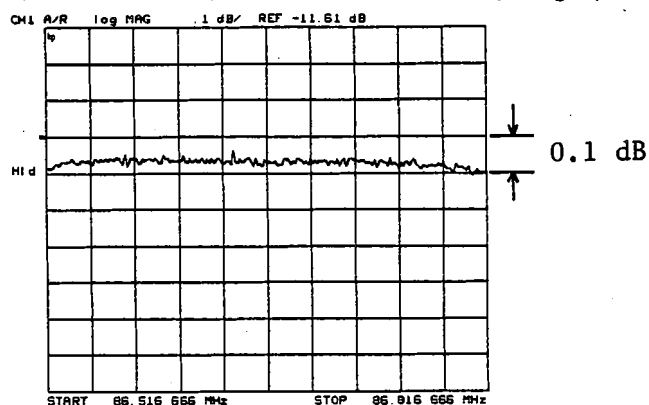

Figure 3-92. Receiver Third IF Converter 6.3/6.9 MHz BPF Adjustment Example 2
8. Adjust **A20R38 (FLATNESS ADJ)** until the ripple is less than 0.1 dB as shown in Figure 3-92.